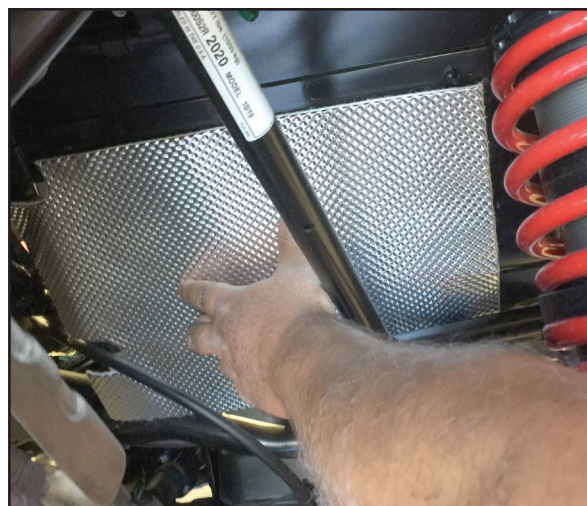

Figure 12
13. Pre-fit the shield contouring it to the panel. Fig 12